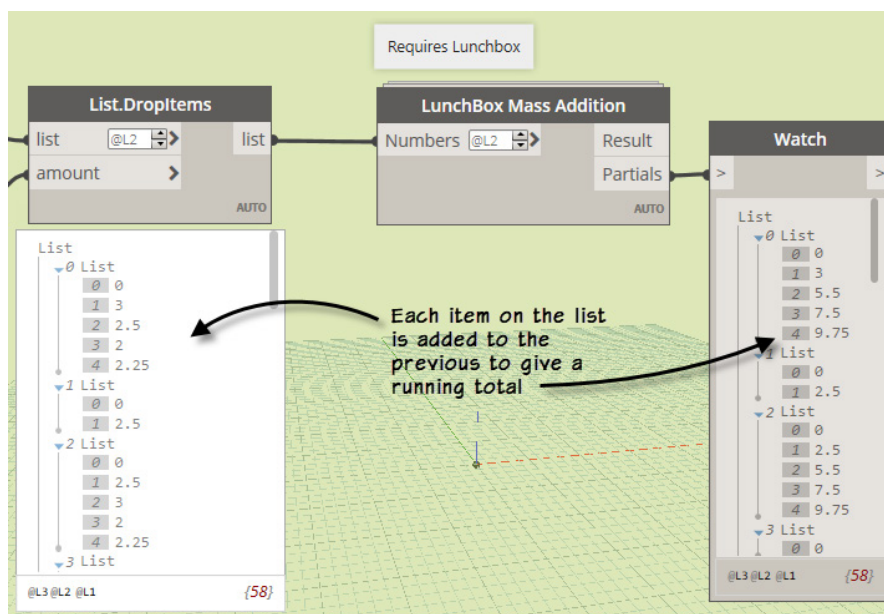

FIGURE 54
34. Run the graph (see Figure 54).